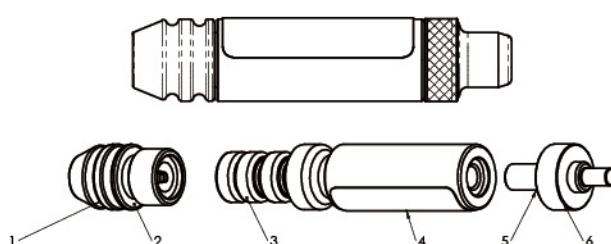

Fig.3. Exploded drawing 分解圖
Name of each parts (Fig. 3)
- After you confirmed as above, you can assemble the all parts according to Fig.3.